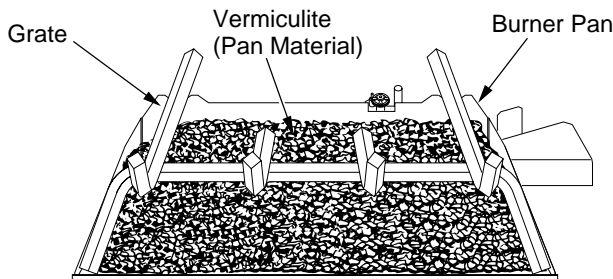

Figure 20 - Fill Entire Burner Pan with Vermiculite (P325E/VP325E Model Shown)
1. Open the bag(s) of vermiculite and fill the entire burner pan until the burner tube is completely covered (see Figure 20).